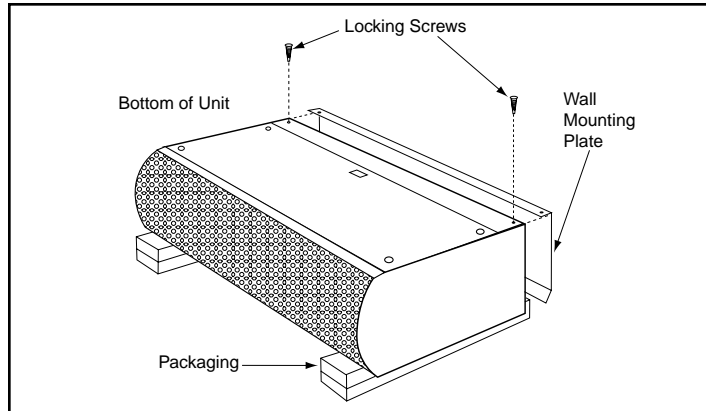

Figure 1
Carefully examine the carton(s) for damage before opening. If the carton is damaged, immediately notify the shipping company. Open the carton and remove all protective packing. Remove the unit by lifting vertically. Place the unit upside down on end supports to avoid damage to the electrical junction box. If the unit will be wall mounted, remove and save the two (2) locking screws from the back corners and detach the wall mounting plate. **See Figure 1**